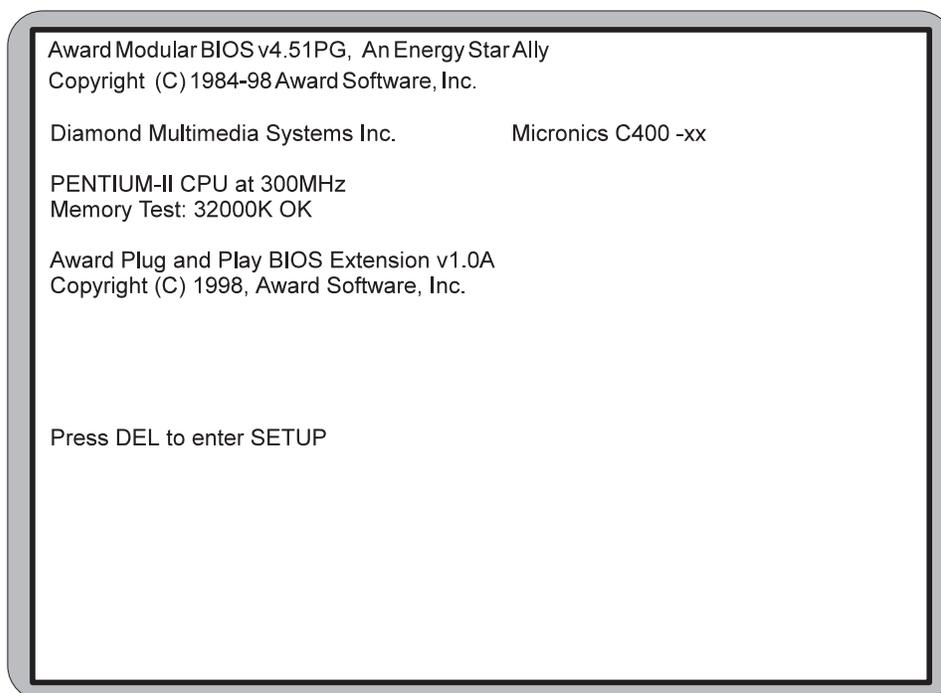

Figure 1.1: Power-Up Screen
9. Turn the computer on and press the key when you see the screen shown in Figure 1.1.